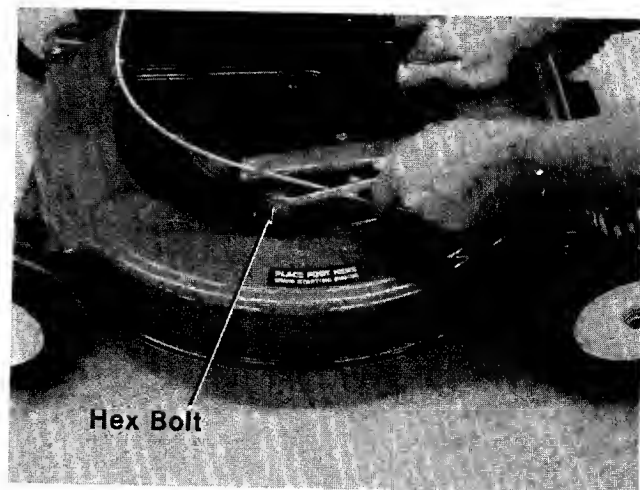

FIGURE 19.
3. Loosen (do not remove) the hex bolt on each side of the pinion pivot plate. See figure 19.